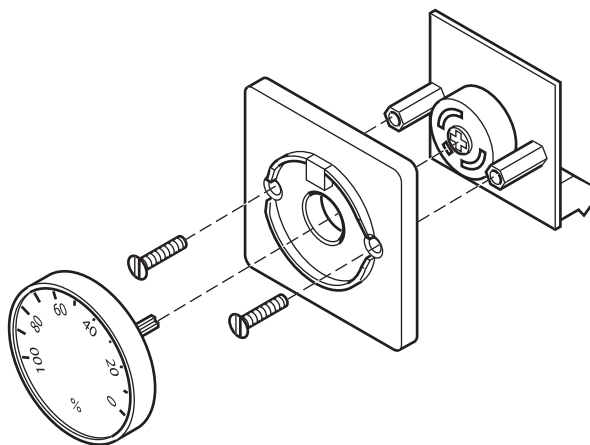

Figure-9 AM-706 Mounting.
4. Remove the two screws from the front cover plate and separate the cover from the circuit board (Figure-9).